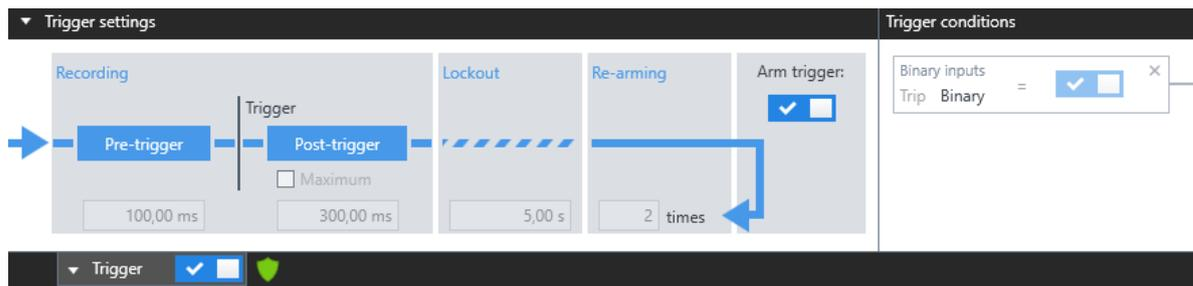

Figure 9: Trigger setting and arming for trip measurement.
4. Setting up and arming a trigger, as exemplarily shown in Figure 9, enables the automated recording of the opening (or closing) action of the circuit breaker.